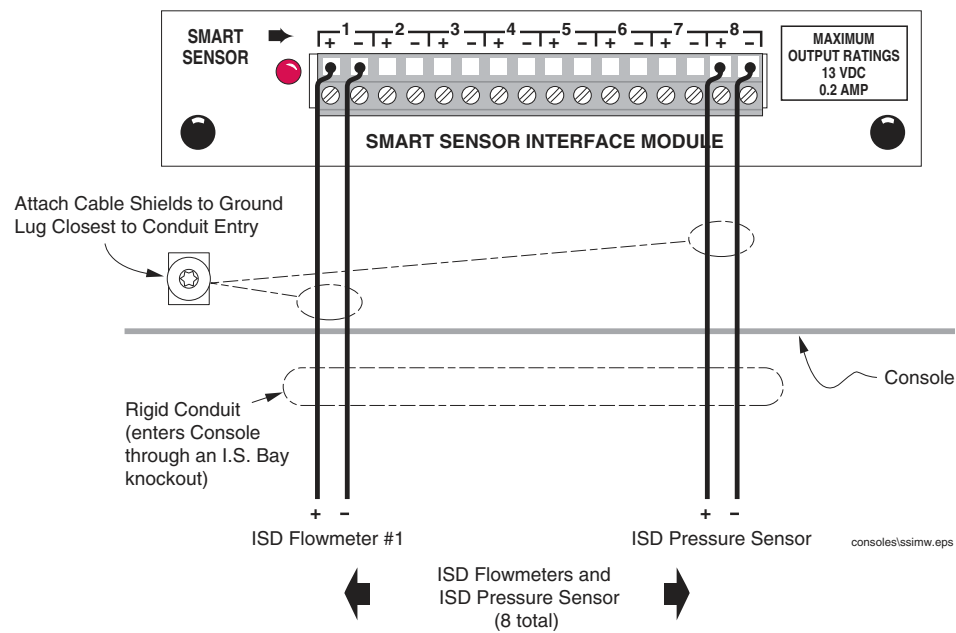

Figure 6. Connecting Vapor Flow Meter to Smart Sensor Interface Module
3. Terminate field wiring into TLS Console and connect to Smart Sensor Module located in the intrinsically safe wiring compartment of the TLS as shown in Figure 6. Note: you must observe polarity! Also, the cable length between the console and sensor must not exceed the distance stated in the TLS-3XX Site Prep manual (P/N 576013-879).